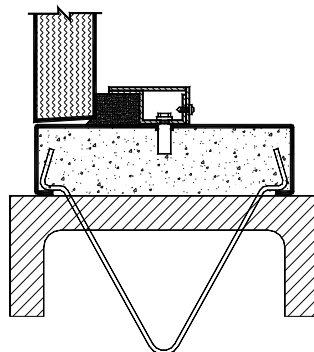

FIGURE 3
D. Installation In New Masonry Partitions (Fig. 3). Instructions for this type wall are not significantly different from those above other than the actual anchorage to the wall and grout fill which takes place as the wall is erected. Special precautions should be taken to prevent the head and jambs from bowing during grout fill.